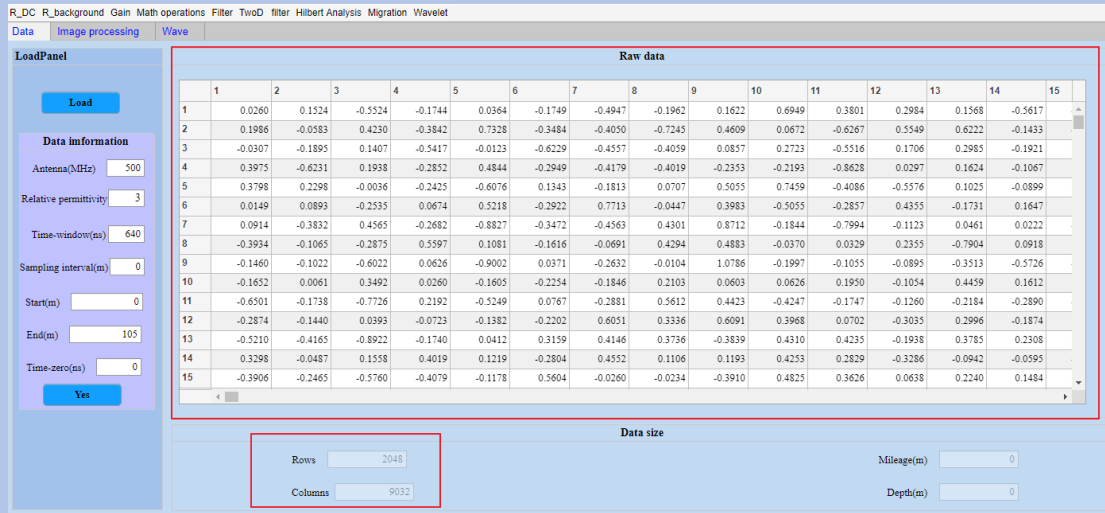

Figure 8.13 Case3 loading data
(1) To read in the data, as shown in Figure 8-13, we can see that the data is sampled at 2048 and has 9032 traces.